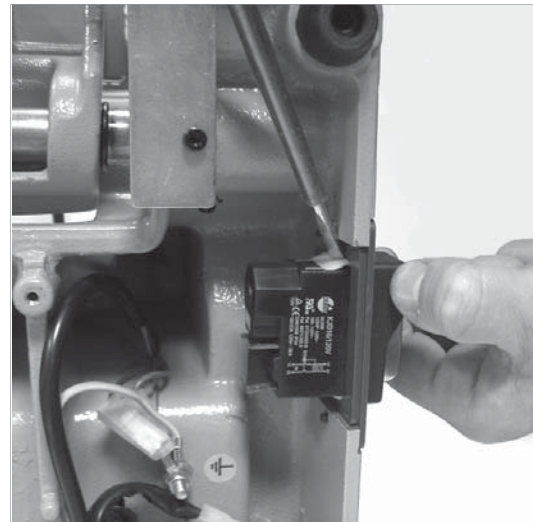

Fig. 46
- 3) Remove the switch making pressure on the tabs with a screwdriver (Fig. 46).